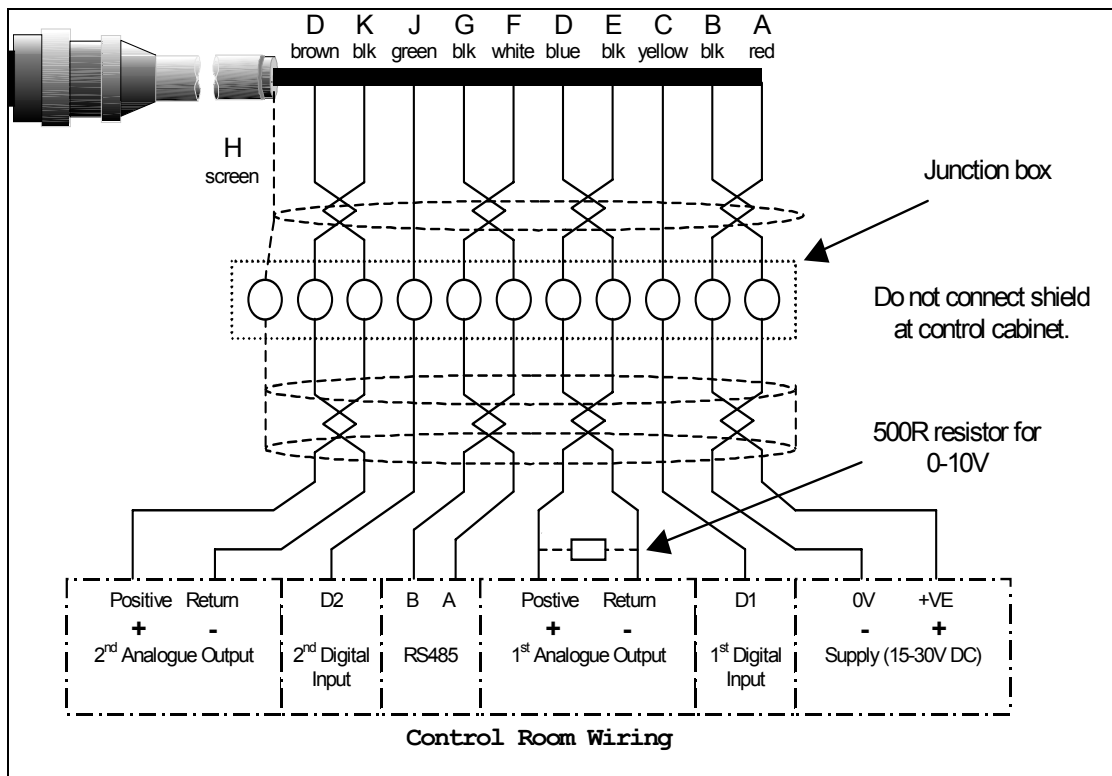

Figure 14 - Sensor cable (0090A) connection
- 0 – 20 mA This may be configured as a 0 – 10 V DC voltage output if a 500 ohm resistor is connected across the analogue output and return wires (see Figure 14)